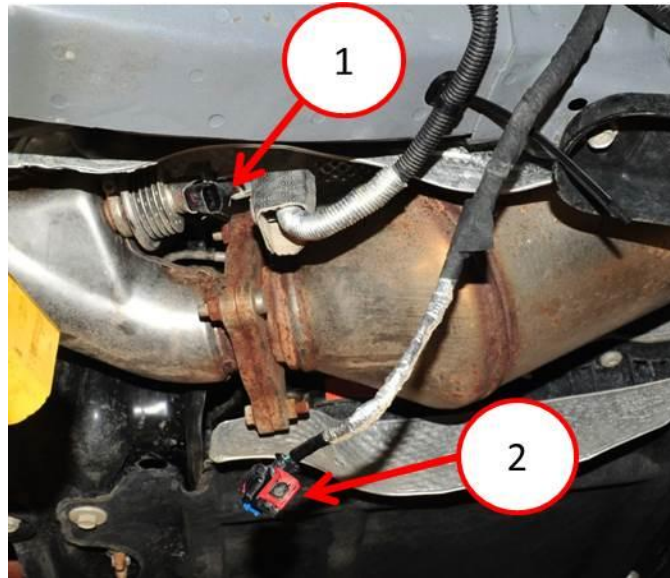

Fig. 5 DISCONNECT THE HARNESS FROM THE DOSER INJECTOR
7. Check for proper orientation of the DEF hose to the DEF injector wiring harness. The two should not cross. If necessary, disconnect the electrical connector from the doser injector and properly orientate their routing (Fig. 5). After properly routing the wire harness with respect to the DEF hose, connect the DEF injector connector ensuring a click is heard.